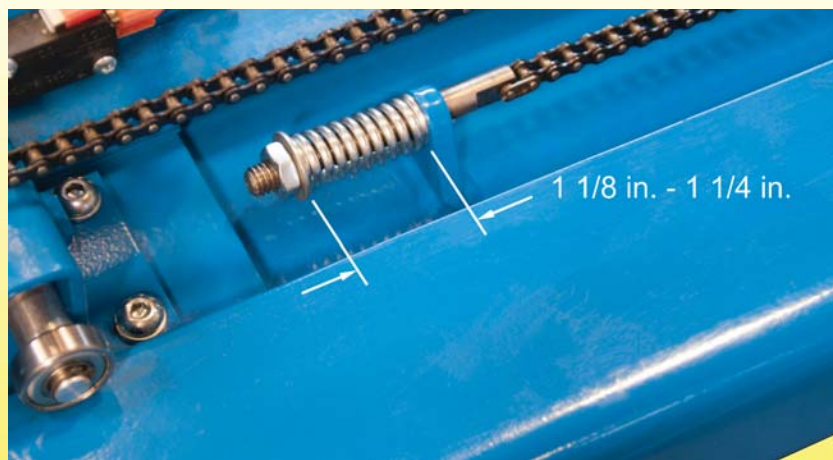

Figure 12 Drive Chain Spring Adjustment
2. Remove the two (2) screws that secure the fork covers to the carriage and set each cover aside.
3. Inspect the chain drive assembly for each fork. The sprockets and/or chain rollers should not show signs of excessive wear. In addition, the drive chain includes a compression spring for setting the proper chain tension. As shown in Figure 12, the correct spring length is 1 1/8 - 1 1/4 inches. If adjustment is required, hold the chain adjustment screw then rotate the spring adjustment nut to set the spring to the proper length and tension.